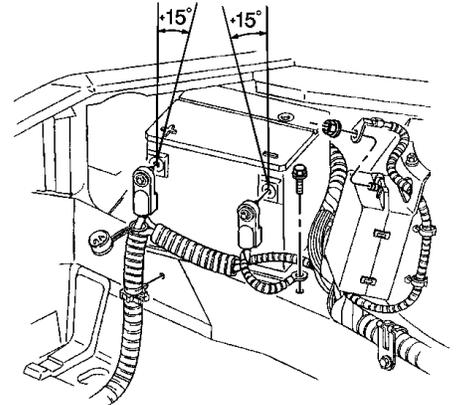

Fig. 2 Battery cable removal
5. Disconnect battery ground cable from battery, **Fig. 2**.
4. Connect positive battery cable to battery, **Fig. 2**. **Torque** cable terminal bolt to 11 ft. lbs.
5. Connect battery ground cable to battery, **Fig. 2**. **Torque** cable terminal bolt to 11 ft. lbs.